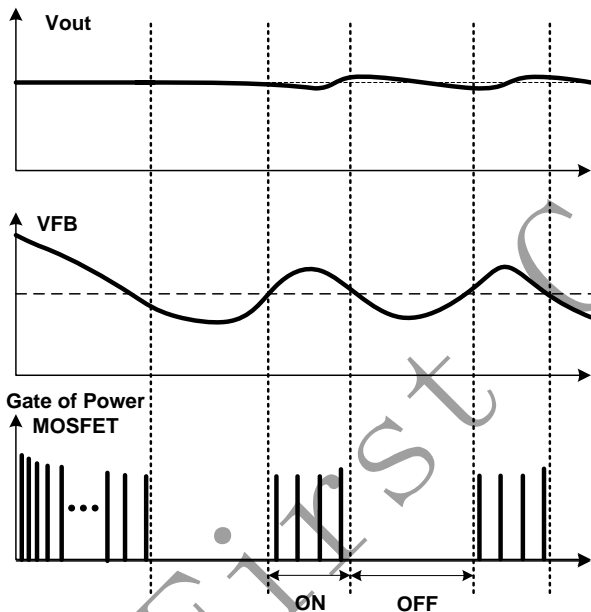

Fig.5
■ When zero or very light load conditions, the IC enters into burst mode. In the burst mode (as illustrated in Fig.5), the valley locking counting number is fixed at 8. In this way, a small standby power can be achieved.
When the loading is very small, the system enters into burst mode. When VFB drops below VFB\_min\_duty, SF5879 will stop switching and output voltage starts to drop, which causes the VFB to rise, as shown in Fig.5. Once VFB rises above VFB\_min\_duty, switching resumes. Burst mode control alternately enables and disables switching, thereby reducing switching loss in standby mode.